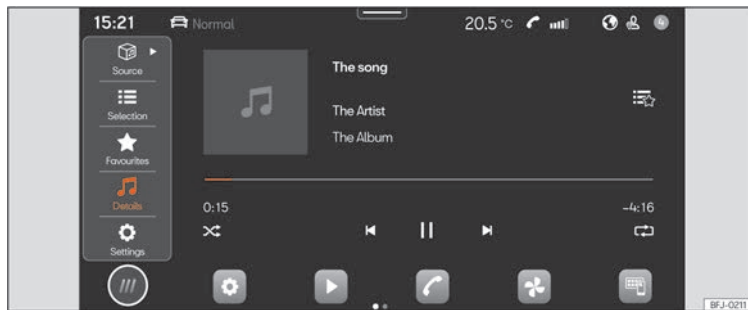

Fig.142 Schematic representation: Multimedia view
- Press **HOME** > ► ► ► **Fig. 142**.